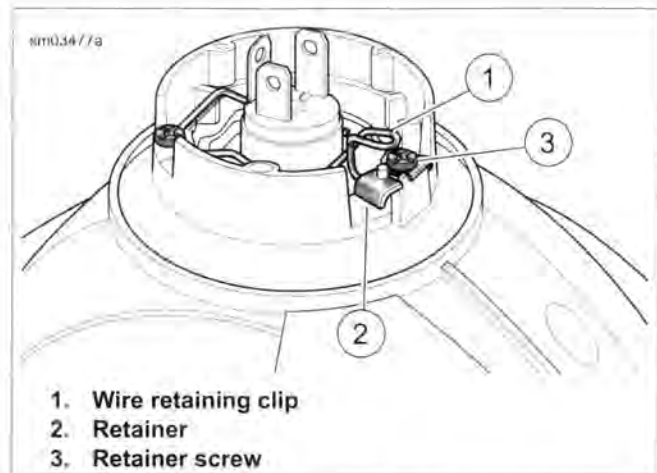

Figure 7-35. Headlamp Bulb Assembly
3. See Figure 7-35. Release wire retaining clip (1) from retainer (2). Swing wire retaining clip out of the way.
6. See Figure 7-35. Rotate wire retaining clip (1) into place and latch under lip of retainer (2).